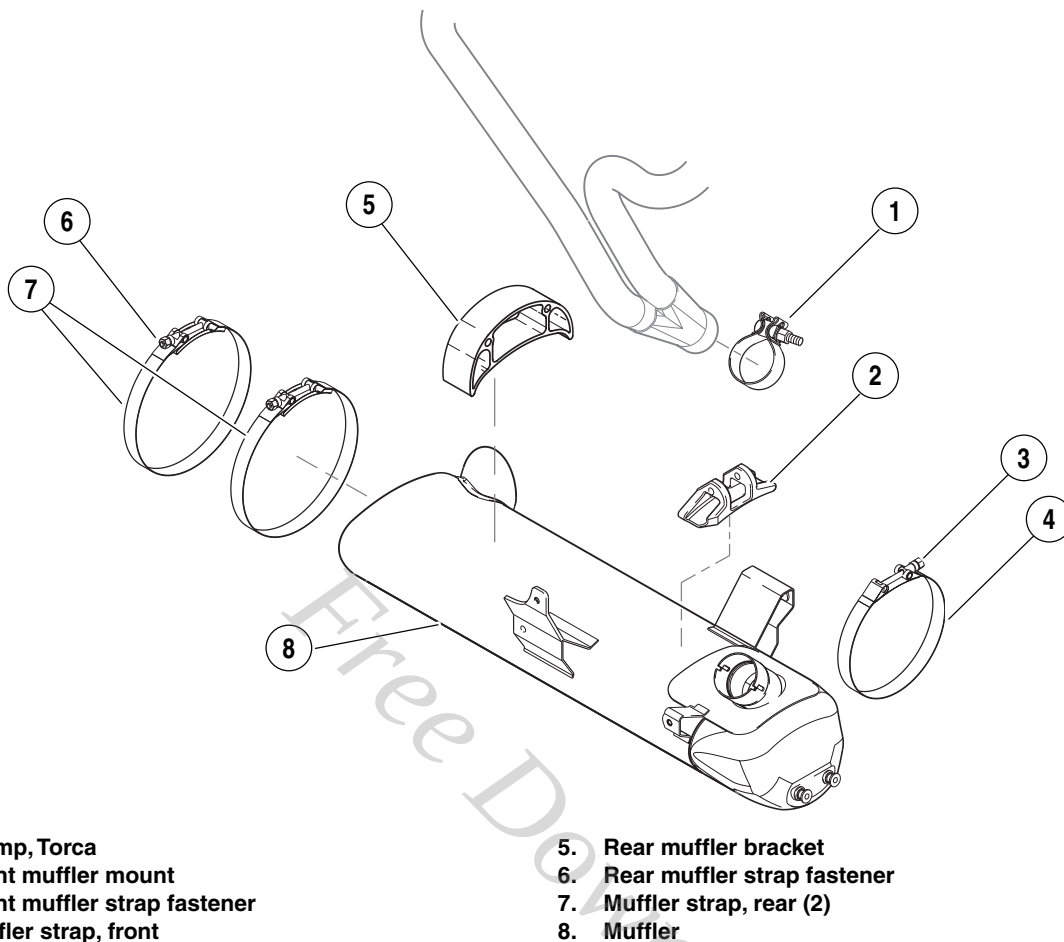

Figure 3-13. Muffler and Mounting System
16. See Figure 3-13. Install muffler with **new** torca clamp but do not tighten:
- a. Install rear muffler straps and alternately tighten rear strap fasteners (6) to 48-60 **in-lbs** (5.4-6.8 Nm).
- b. Install front muffler strap fastener (7) and tighten to 108-120 **in-lbs** (12.2-13.6 Nm).